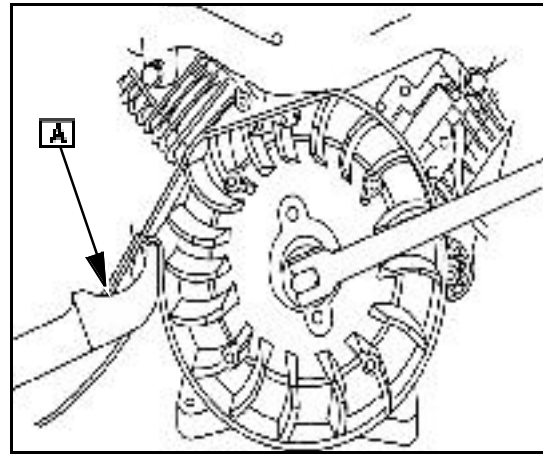

Fig. 6
6. Place Flywheel Strap Wrench #19433 (A) Fig. 6) around outer rim of flywheel.